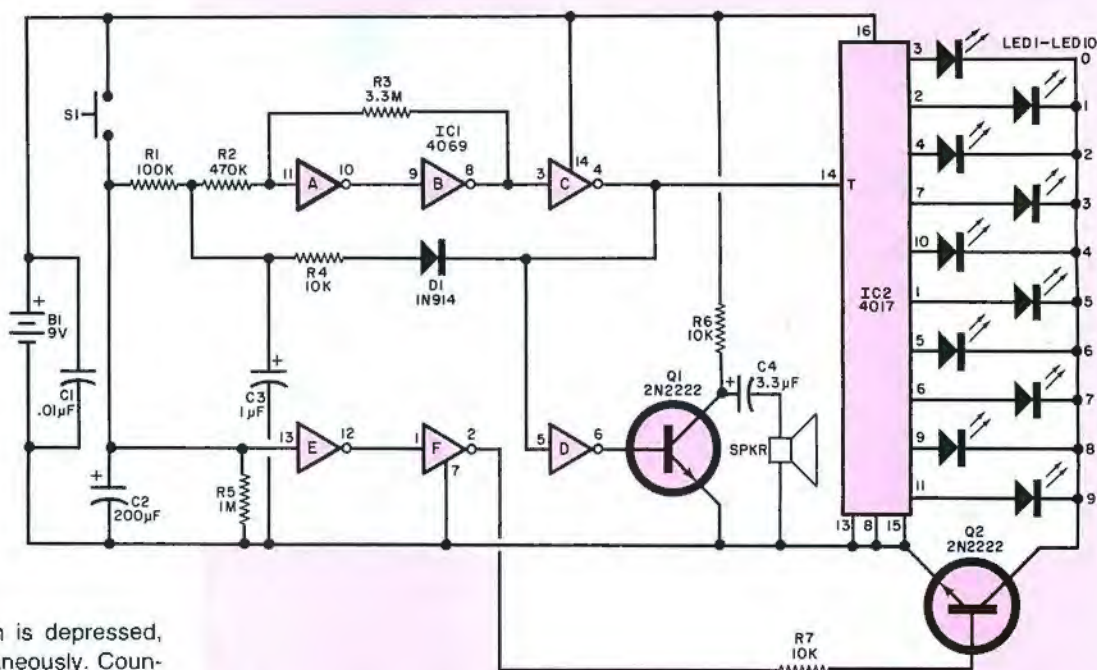

Fig. 4. "Wheel of Fortune" sequentially lights one of 10 LED's and generates audible clicks.
**Wheel of Fortune.** The circuit shown in Fig. 4 is a 10-LED spinning wheel with audible 'clicks' as the wheel passes each point. The rotation starts fast, then gradually slows down to a random stop (with a click at each position). After the rotation ceases, the selected LED stays lit for about 10 seconds, then goes out. The cycle restarts by depressing the pushbutton switch.